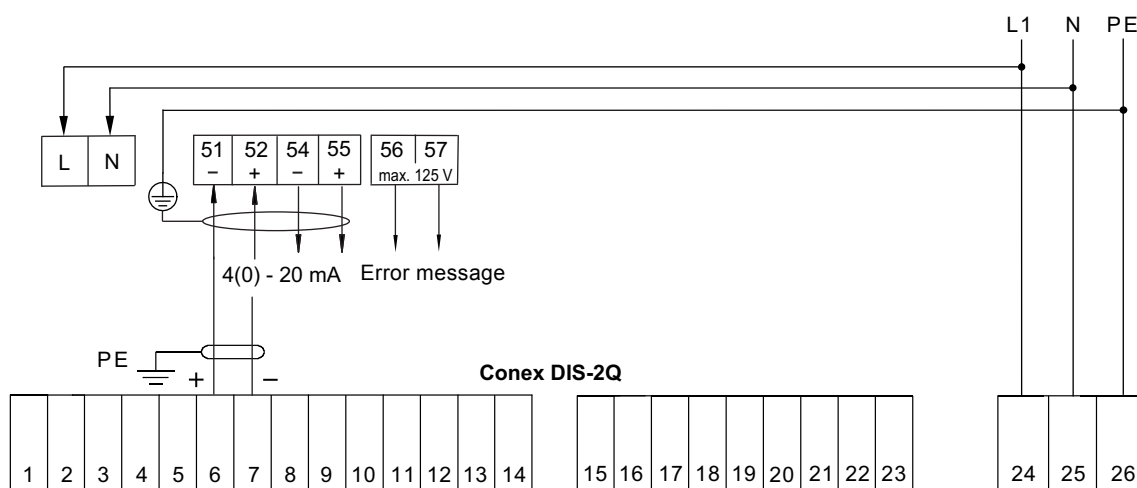

Fig. 17 Terminal connection diagram Conex® DIS-2Q
2. Establish electrical connections according to the diagram shown in fig. 17.